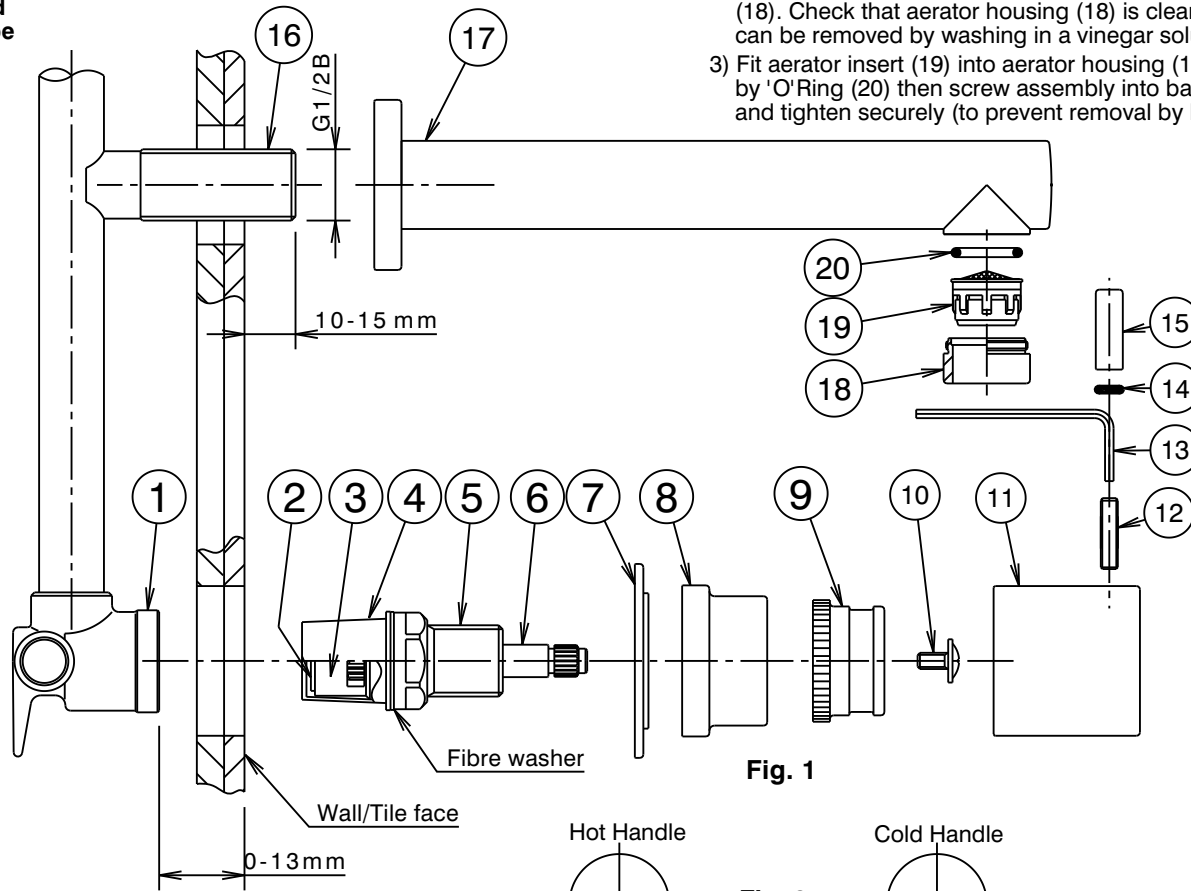

Fig. 1
- 1) Check that the face of the recess tap body (1) is 0-13mm from the wall/tile face, as shown in Fig.1.
- 2) Check seats in recess tap bodies (1) are in good condition and free of foreign materials. Reseat if required.